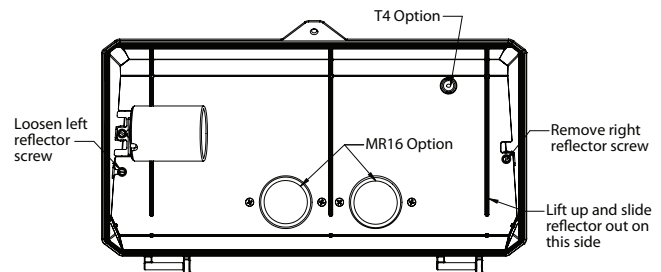

FIG. 3
4. Loosen left reflector screw and remove the right reflector screw **FIG. 3**.
- If luminaire is equipped w/ T4 or MR16 Egress option, disconnect wiring for these lamps **FIG. 3**.